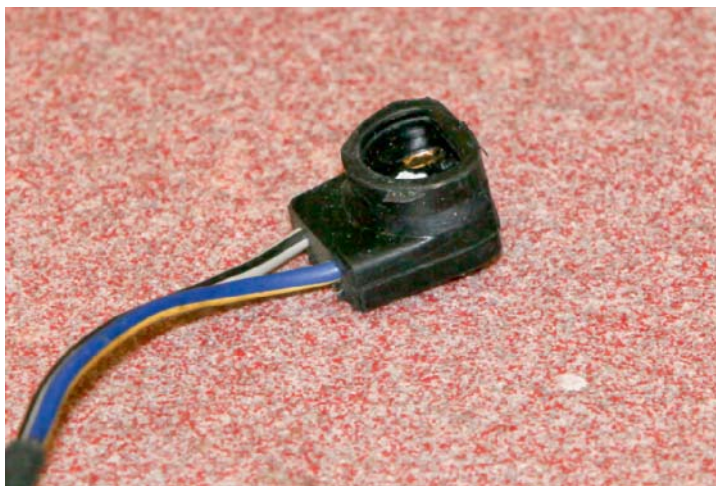

FIGURE 4-6 Molded connectors cannot be disassembled to replace damaged terminals or to test.
- 1. Molded connector:** These connectors usually have one to four wires that are molded into a one-piece component (Figure 4-6). Although the connector halves separate, the connector itself cannot be taken apart.